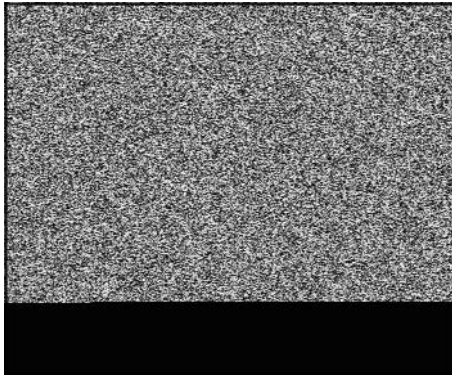

Figure 3
1. Remove screws (A, Figure 3) holding muffler guard to muffler.
2. Remove screw (B) holding muffler guard to control bracket. Remove muffler guard and set aside.